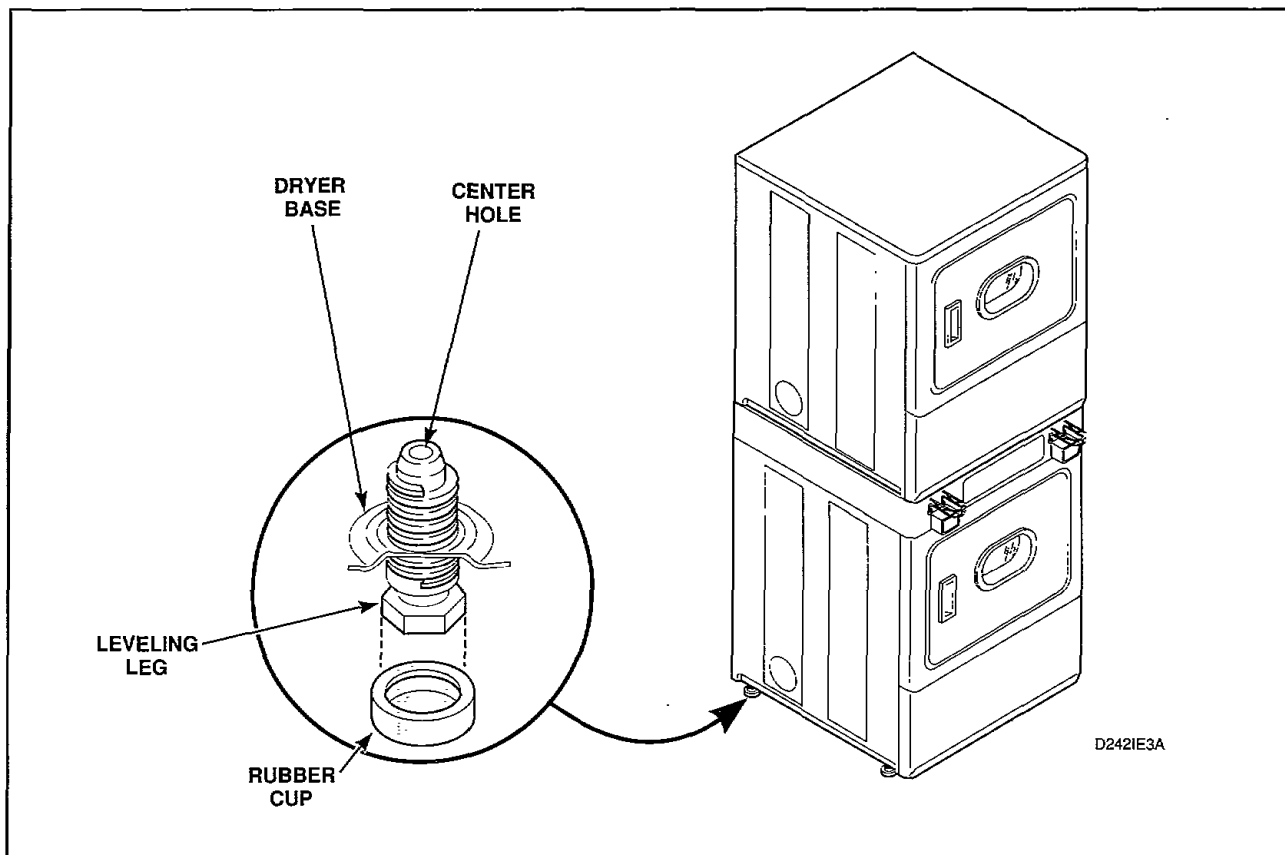

Figure 49
37. LEVELING LEGS (Figure 49)
- c. Place a rubber cup (supplied with dryer) under each of the leveling legs, Figure 49.